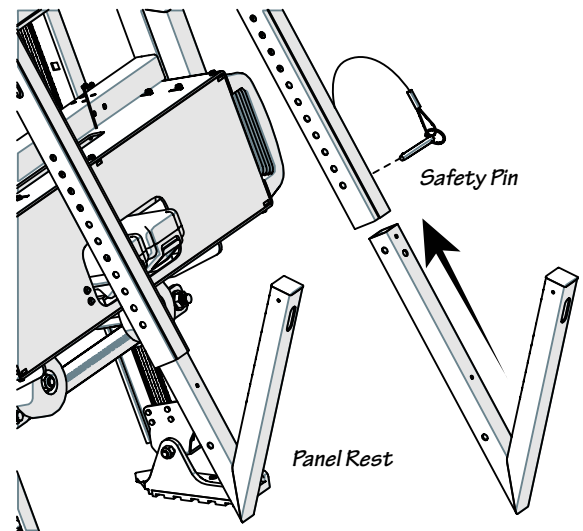

Fig. 2-3
- Slide panel rest into the bottom of the frame adjust to your desired position. Secure with safety pin. See Fig. 2-3.